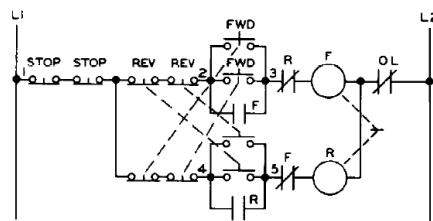

Fig. 29 Reverse Starter Multiple Push Button Station.
17. Reverse Starter Multiple Push Button Station (Fig.29)